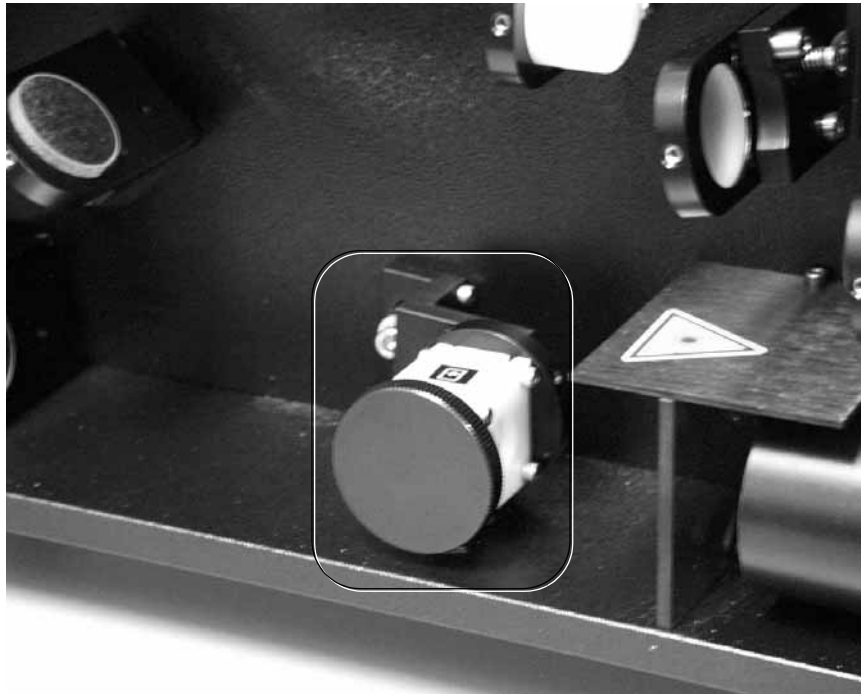

Figure 3-5. Second Harmonic Generation Crystal
- 19. Install the SHG in its mount, make sure that the arrow on the crystal assembly points toward the CCD array, as shown in Figure 3-5.